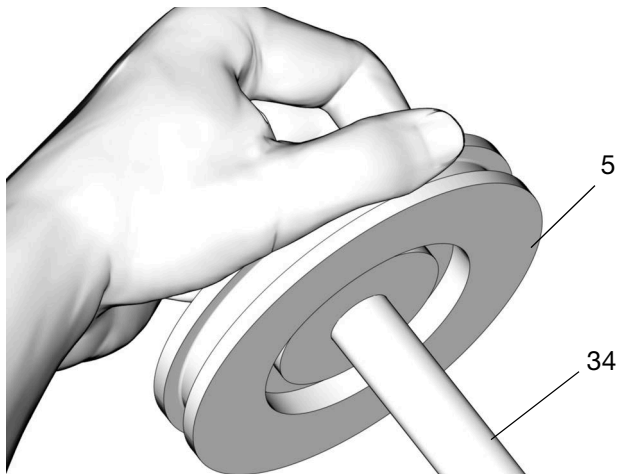

FIG. 30
6. Push the piston (5) over the end of the piston rod (34) until seated on the rod (FIG. 30).